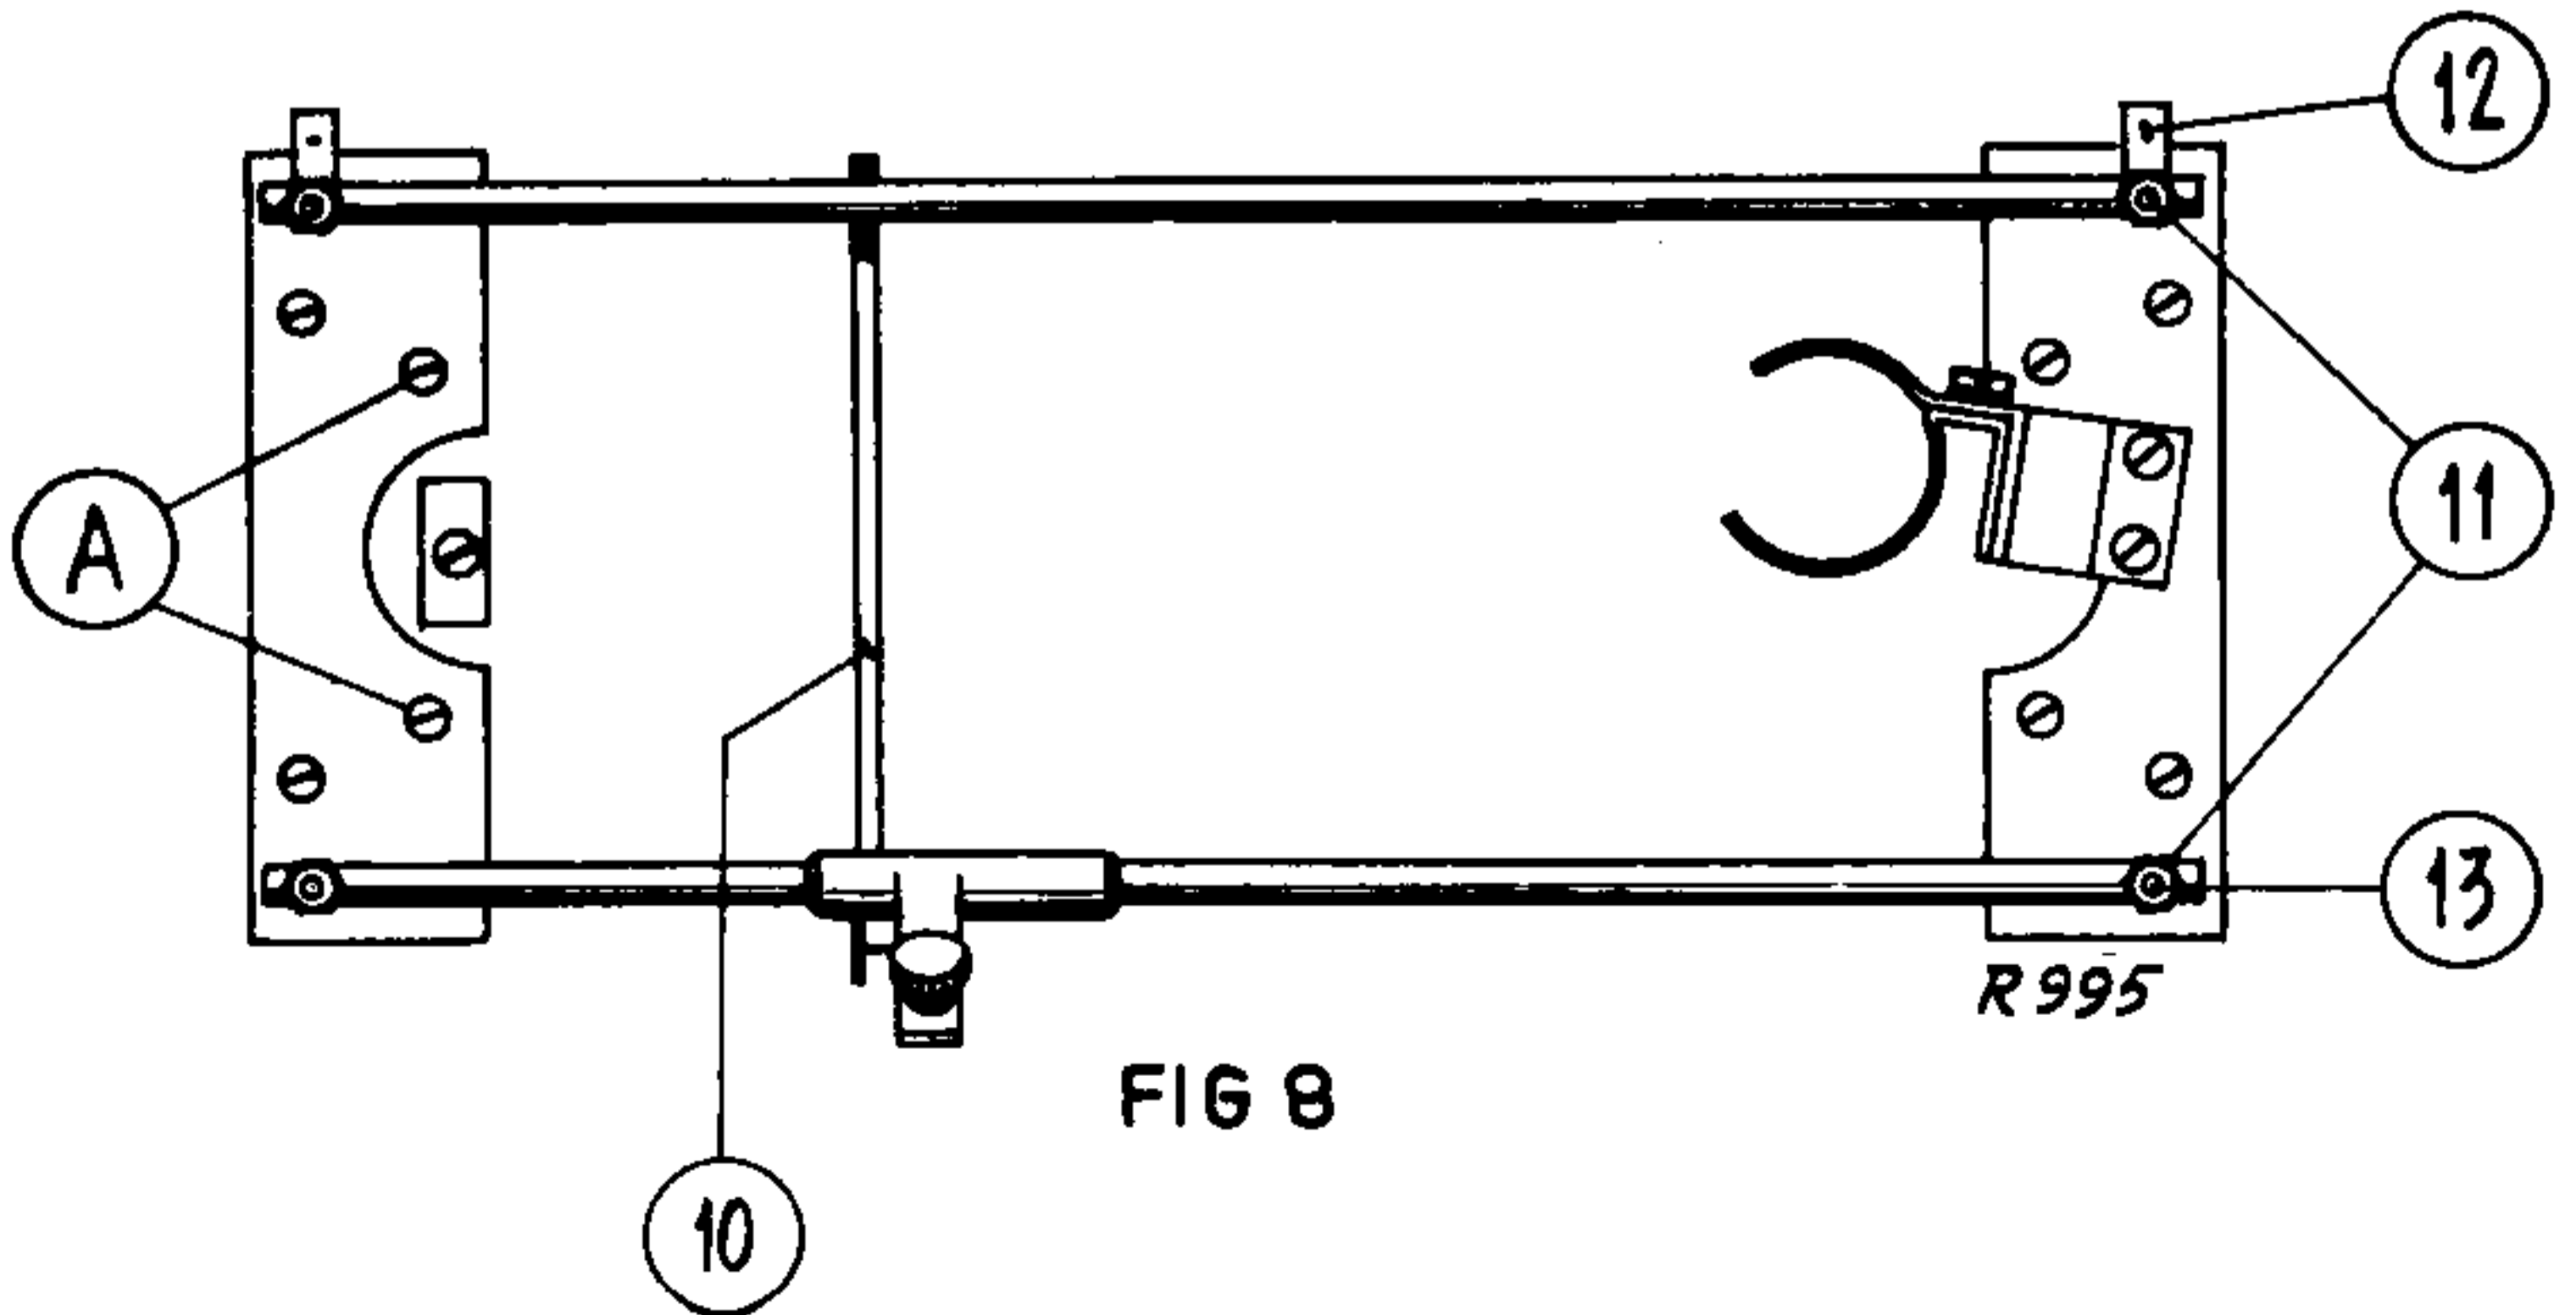

FIG 8
1. Unscrew the 4 screws A (fig. 8).